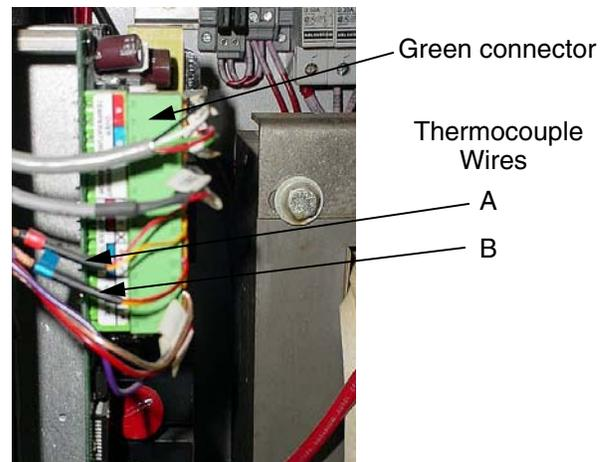

FIG. 19
6. Connect the wire of the thermocouple into green connector on temperature board. See FIG. 19. Tie-wrap loose wires inside electrical enclosure.